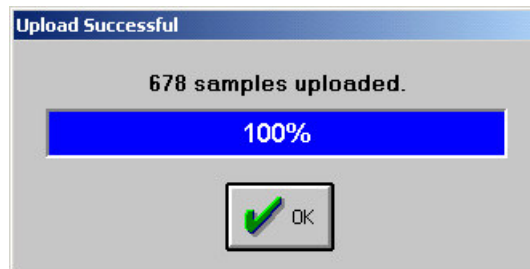

Figure 9: Upload Successful window after experiments completed
3. After the experiment ran successfully (no violent movement of mechanical system), an Upload Successful window similar to Figure 9 appears.